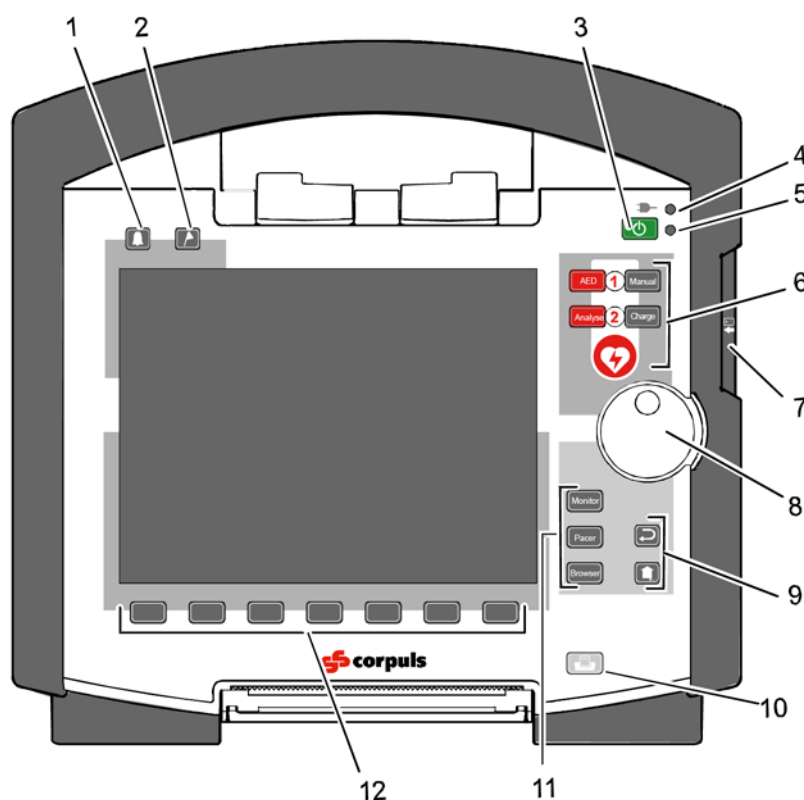

Fig. 4-1 Monitoring unit, operating elements and LEDs
Operating mode keys The different operating modes are selected by pressing the following keys (Fig. 4-1, item 11):
The function keys **Back** and **Home** (Fig. 4-1, item 9) are used to control the device:
Pressing the **Print** key (Fig. 4-1, item 10) starts the real-time printout of the curves. Pressing the **Print** key again interrupts every running print job (log, D-ECG, real-time printing).
The softkeys (Fig. 4-1, item 12) are assigned different functions, depending on the current operating mode or selected dialogue. The current function is displayed in the softkey line.
By pressing the **Alarm** key (Fig. 4-1, item 1), the alarm history of all physiological and technical alarms is called up. All the alarms which have occurred appear in this list with their time of occurrence.
If the **Event** key (Fig. 4-1, item 2) is pressed briefly, a time stamp is saved which marks the current ECG data and parameter values. Based on this marking, this data can subsequently be located in the data memory, viewed and assessed. The message **Event recorded** appears in the message line.